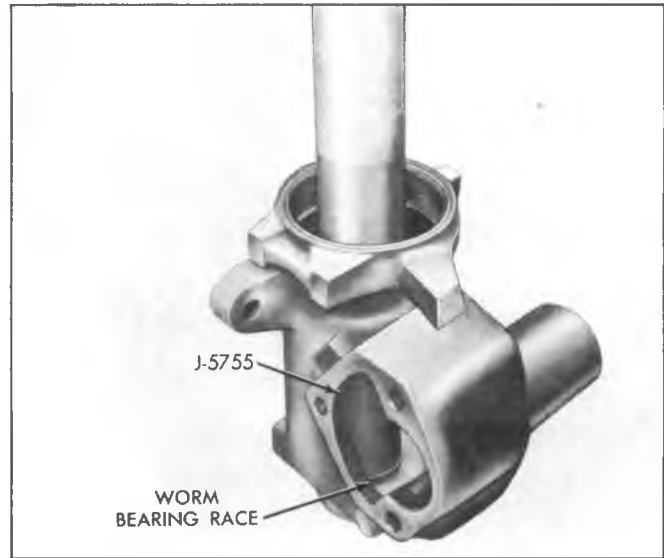

Fig. 10-Installing Wormshaft Bearing Race-Typical
3. Press the new bearing race into position using Tool J-5755 (fig. 10).